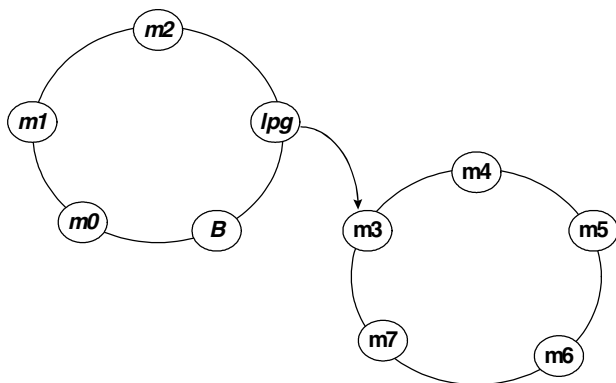

Figure 14-1. Secondary Bus Arbiter Example
The secondary Arbiter supports a programmable two-level rotating algorithm that cares for the eight request/grant pairs to control up to eight external bus masters. In addition, there is a request/grant pair internal to the PCI 6540, which allows the device to request and be granted access to the secondary bus. Figure 14-1 is an example of the Internal Arbiter wherein four masters, including the PCI 6540, are in the high-priority group, and five masters are in the low-priority group. Using this example, if all requests are always asserted, the highest priority rotates among the masters in the following way (the PCI 6540 is denoted as *B*; high-priority members are provided in *italic type*, and low-priority members in **boldface type**):
**Note:** In Figure 14-1, "lpg" denotes "low-priority group."
Using the example provided in Figure 14-1, but with the groups at fixed priority, suppose that: